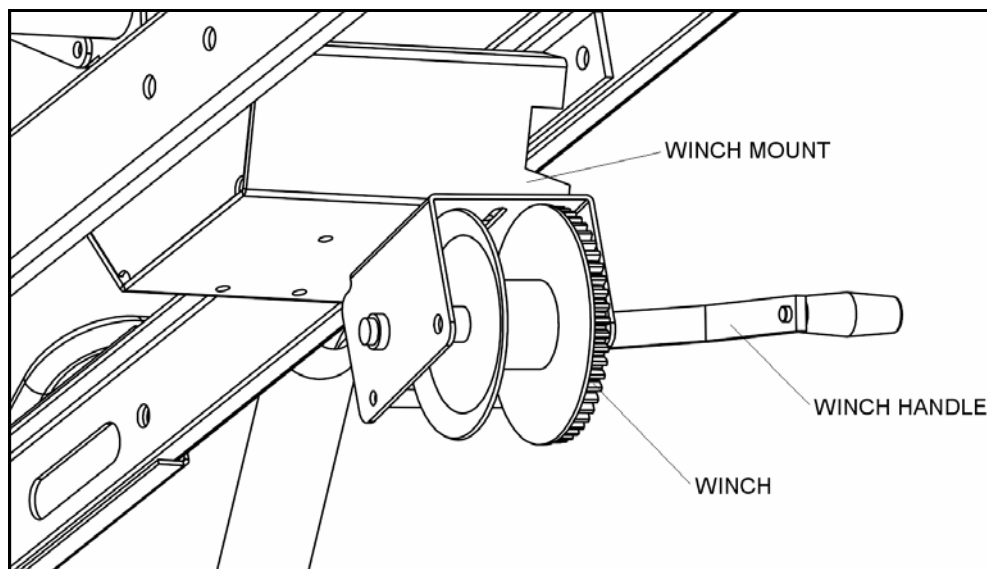

Figure 3.19 Winch Installation
3. Attach winch to mount with three 3/8" x 1" bolts and locknuts. Use the set of holes shown in Figure 3.19.